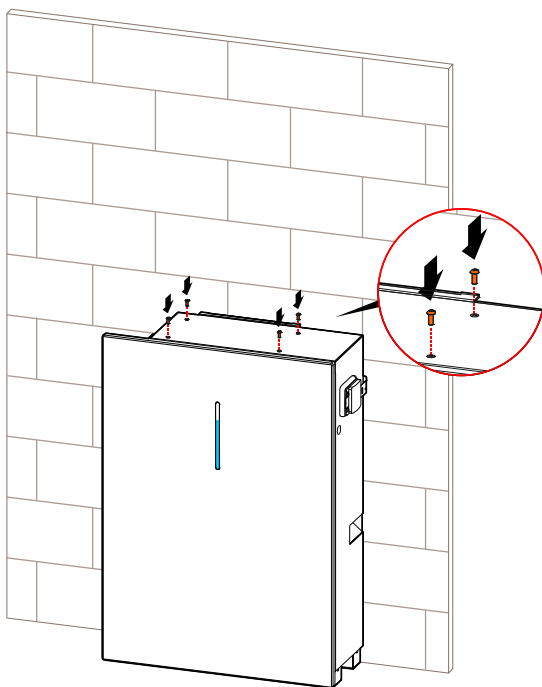

Figure3-14 Lock the screw on top
Step 1 After install the single battery, then lock the screw M6 on top of the below battery pack, as shown in Figure3-14.